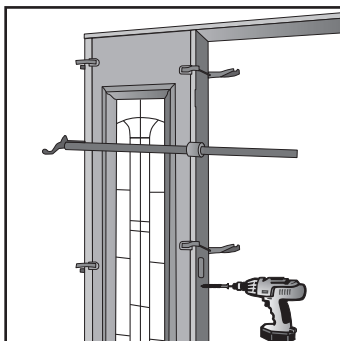

Fig. 19
- H. Anchor strike side mull post to sidelight, using a 1½" screw under lock strike location (**Fig. 19**). Anchor top of mull post to sidelight using two 1½" finish nails approximately 2" down from head jamb through rabbeted face of jamb. Anchor bottom of mull post to sidelight using two 1½" finish nails approximately 2" up from sill into rabbeted portion of mull post.